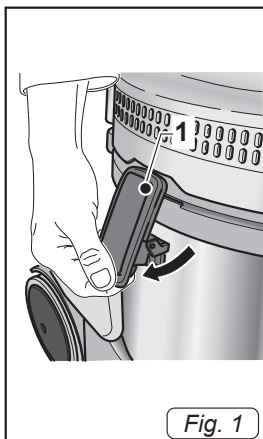
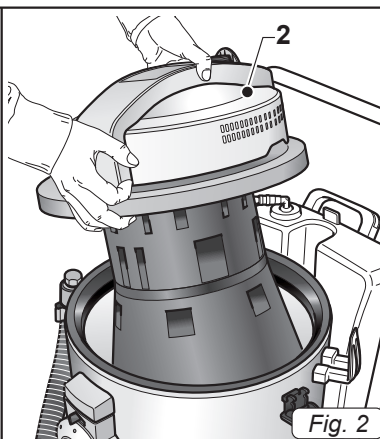

Fig. 1
Fig. 2
- Release the levers (1 Fig. 1) and remove the cover (2 Fig. 2) complete with the motor unit.
- Place the cover back on (2 Fig. 2) and lock it using the levers (1 Fig. 1).